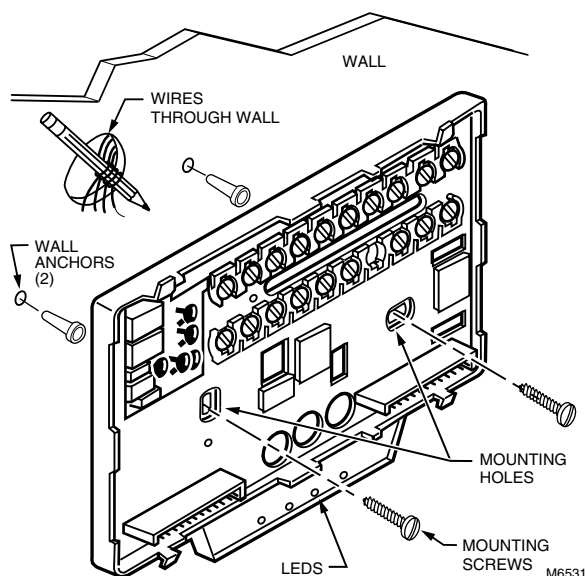

Fig. 8. Mounting the subbase.
2. Use a pencil to mark the mounting holes. See Fig. 8.